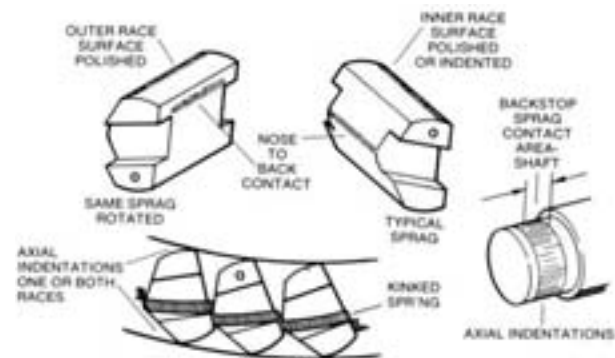

Figure 5 HOLDBACK OVERLOAD ROLLED-OVER SPRAGS
- During disassembly of backstop note if energizing springs were kinked. If so, are they kinked as shown in Figures 5 or 6?